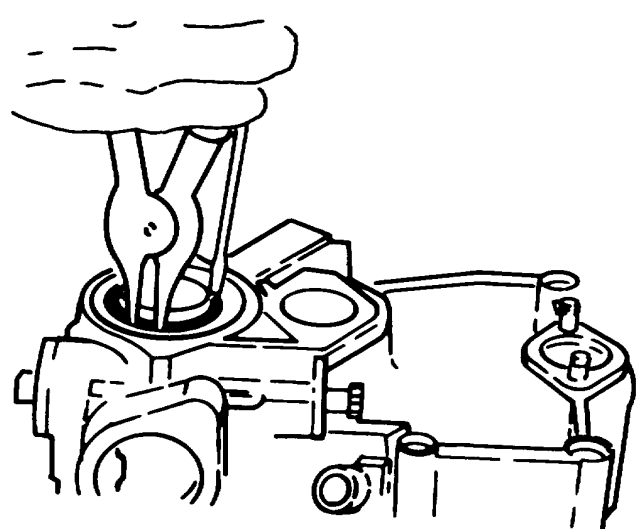

Figure A-40. Replacing nylon o-ring
- (1) Replace the nylon o-ring retainer on the end of the camshaft bearing so that its shoulder faces out. Press the o-ring into the retainer. Next, using a snap ring pliers, replace the bearing retaining ring in the gear cover. (Figure A-40.)